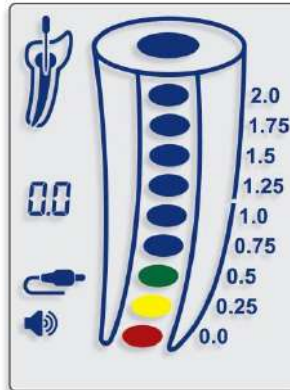

Fig. 10
- 5.4.13. Reaching the apical foramen (0.0) is indicated by a red colour segment inside the root canal image (Fig. 10) and a constant audio tone. Determine the electronically obtained length using an endodontic ruler. To establish the working length, subtract 0.5 - 1.0mm from the electronic length.